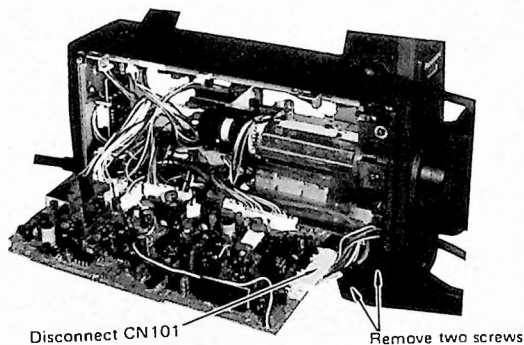

Fig. 8-2
- Disconnect the connector CN101 for the handle grip from the Deflection circuit board. (Fig. 8-2)
- Remove the two screws which hold the adjustable handle grip to the chassis (Fig. 8-2) and remove the handle grip